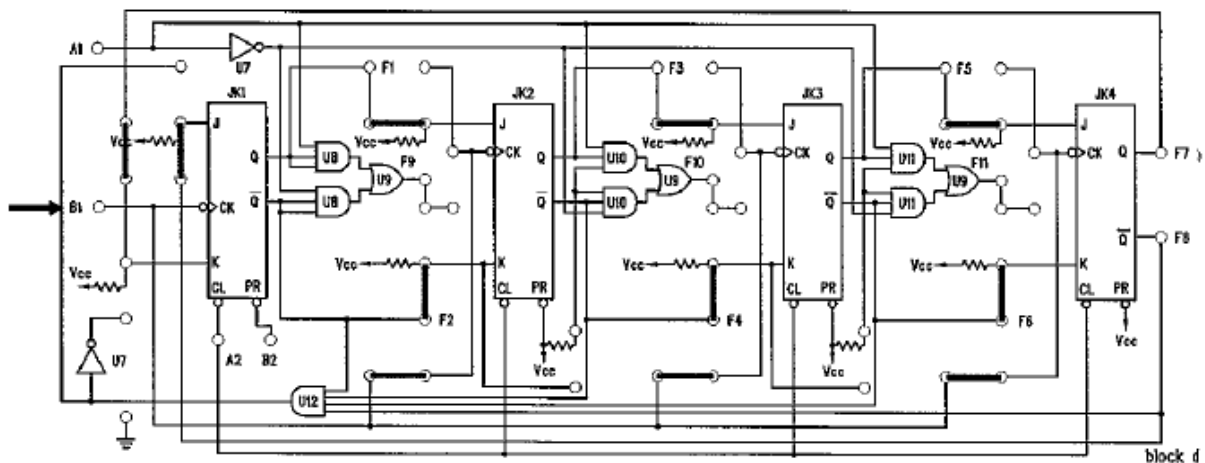

Figure 4.1
1. Construct a 4-bit Johnson counter by following the circuit scheme shown in **Figure 4.1**.